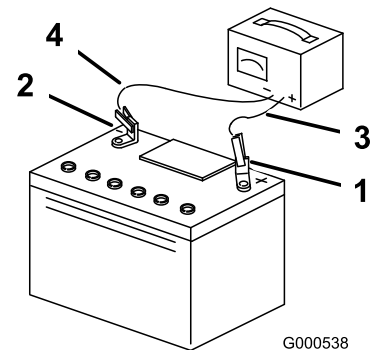

Figure 50
5. When the battery is fully charged, unplug the charger from the electrical outlet, and disconnect the charger leads from the battery posts (Figure 50).